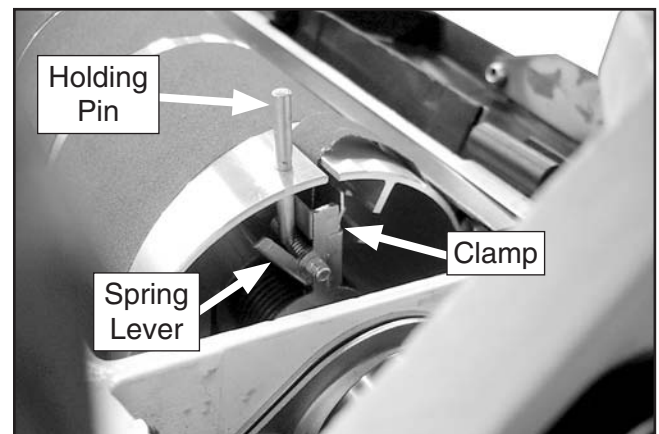

Figure 21. Holding pin inserted into the access hole (viewed from the right side of drum).
- To secure the right end of the strip, move the clamping device forward by pressing against the spring lever until you can insert the holding pin between clamp and the spring lever, as shown in **Figure 21**.